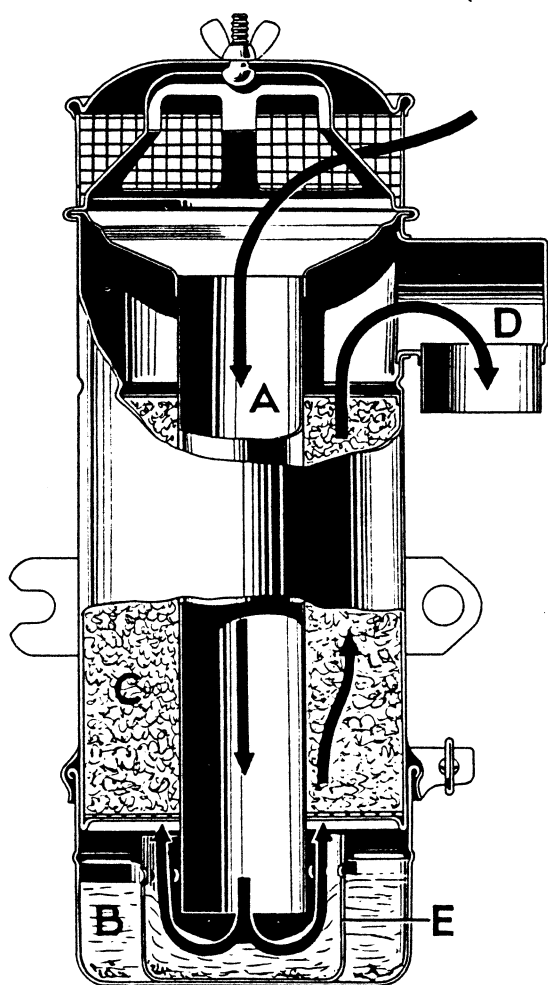

FIG. 8
### Function of the Air Cleaner. Fig. 8.
A typical section through the air cleaner is shown in Fig. 8. Air entering from the top into the central air duct (A) passes through the oil bath (B) and cleaner element (C) to the outlet pipe (D) which is connected to the engine by rubber hoses.